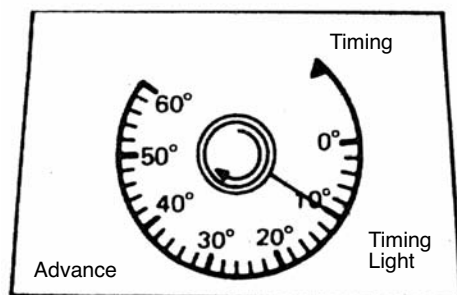

Figure 3
6. Start engine and operate at normal idle speed. Aim the timing light to timing mark as figure 3.
3. Observe the reading from the advance scale as shown on figure 3.